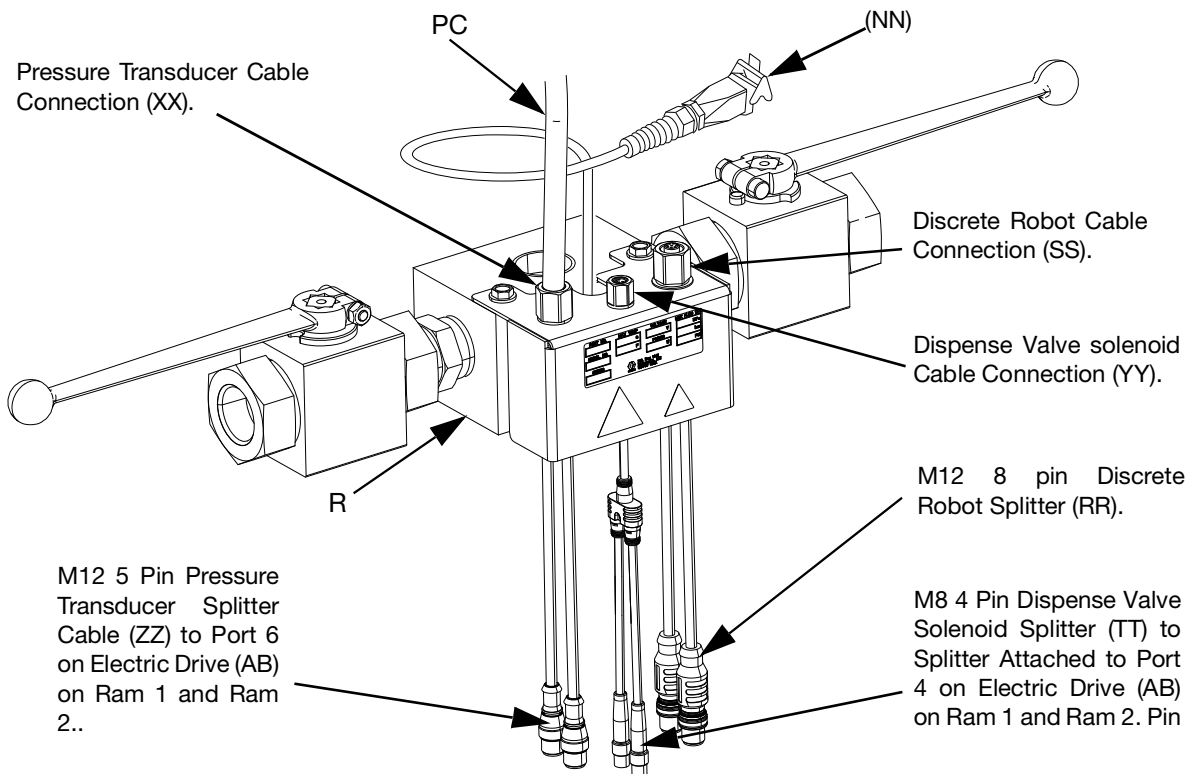

FIG. 22
1. If using a Single iQ Ram Supply System, connect the pressure transducer cable (PC) from dispense valve (B) to Port 6 on the Electric Driver (AB). See **Electric Driver Communication Connections** for Single Rams on page 16.
- a. Connect the Pressure Transducer Cable (PC) from the Dispense Valve (B) to the Tandem Block Valve Pressure Transducer Splitter. See FIG. 22.
- b. Connect one male end of the M12 5 pin Pressure Transducer Splitter cable (ZZ) on the Tandem Block (R) to Port 6 on the Electric Driver (AB) on Ram 1. The second male end goes to Port 6 on Ram 2. See **Electric Driver Communication Connections for Tandem Rams** on page 17.